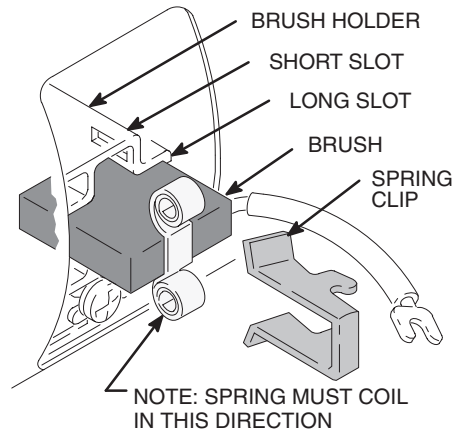

Fig. 13 01227
6. Install new brush so lead is in long slot of holder. See Fig. 13.
8. Place spring on brush as shown in Fig. 13.
9. Install spring clip and push it down to hook short slots in housing. See Fig. 13.